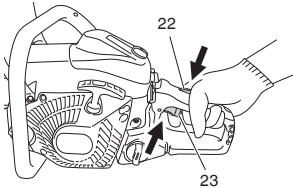

Fig. 16
- As soon as engine start, pull throttle lever (23) full once with throttle lever lockout (22) and release immediately. (Fig. 16) Then half-throttle is disengaged.